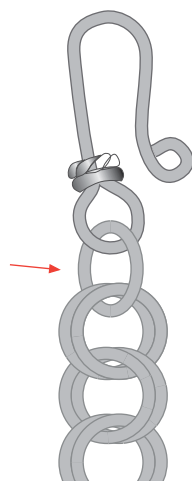

FIG. 7
1. Use jump rings to attach the clasp to the ends of the weave (FIG. 7).